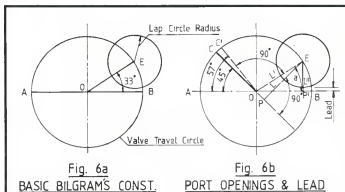

Fig 6a:
1. In Figure 6a, the scale of the circle to be drawn with centre O, the